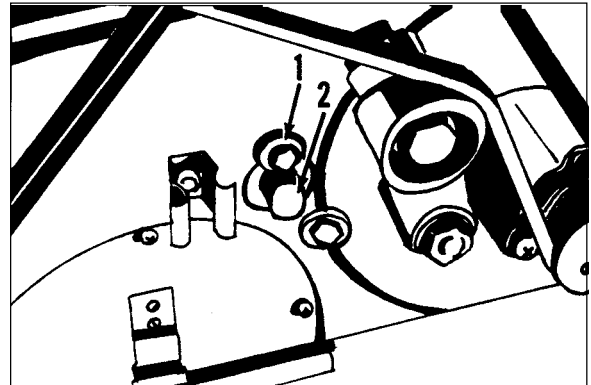

Figure 7
2. Loosen the eccentric lock screw. Using the 7/16" wrench, turn the eccentric lock screw (1) counter-clockwise. See figure 7.
3. To raise or lower the drum, turn the eccentric (2). See figure 7.